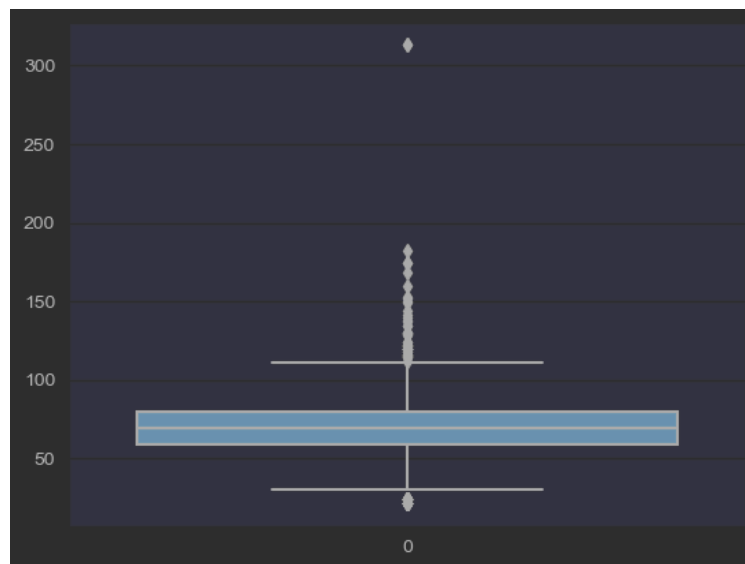

Figure.1
- **Outlier Detection and Treatment:** Using boxplot from seaborn library, outliers were detected as shown in figure.1 below.